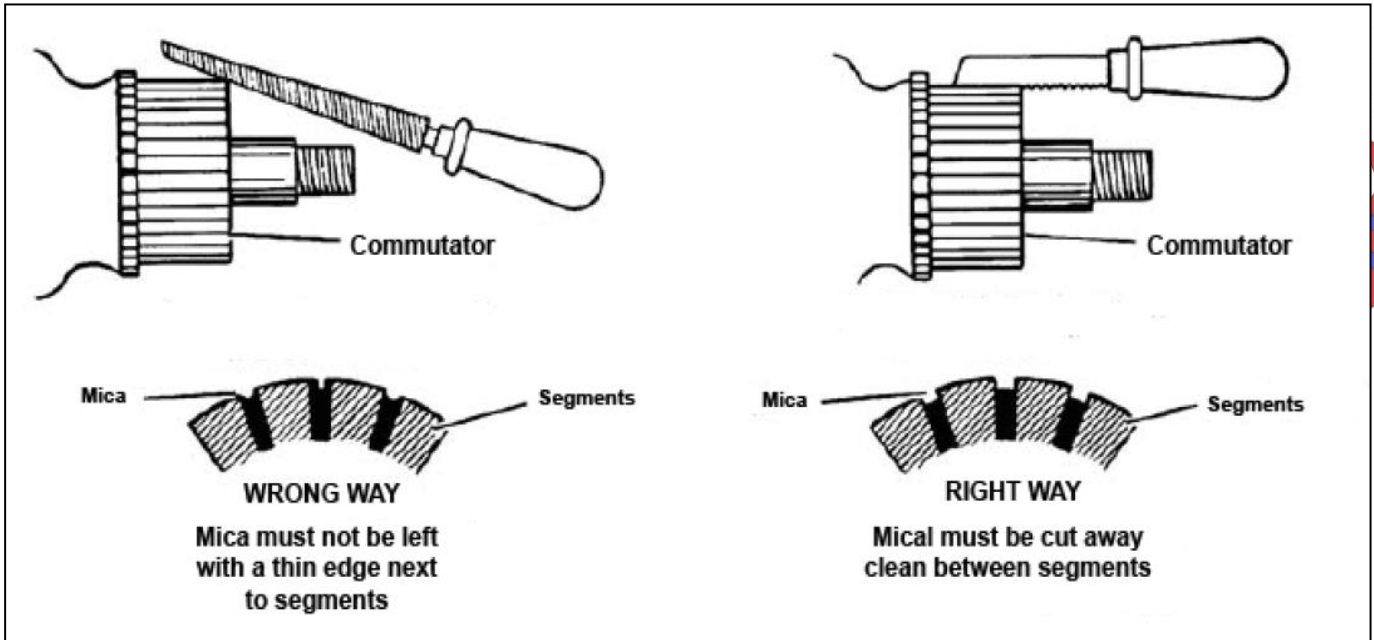

Figure 10-10
2. Support the armature at both bearing journals. Check runout of commutator with a dial indicator. Total indicated runout should not exceed 0.005" (0.12 mm). If the readings fall outside this limit, commutator must be turned and undercut. Figure 10-10.